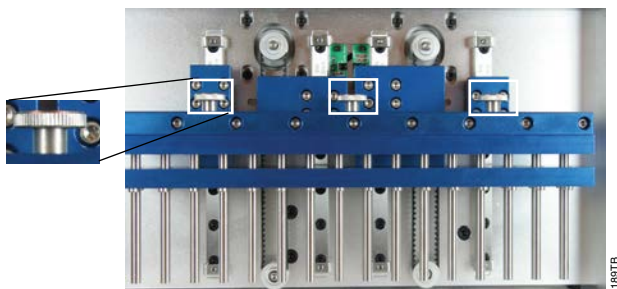

Figure 4. The thumbscrews on the top of the magnetic rod assembly.
3. Unscrew and remove the three thumbscrews on top of the magnetic rod assembly (Figure 4).